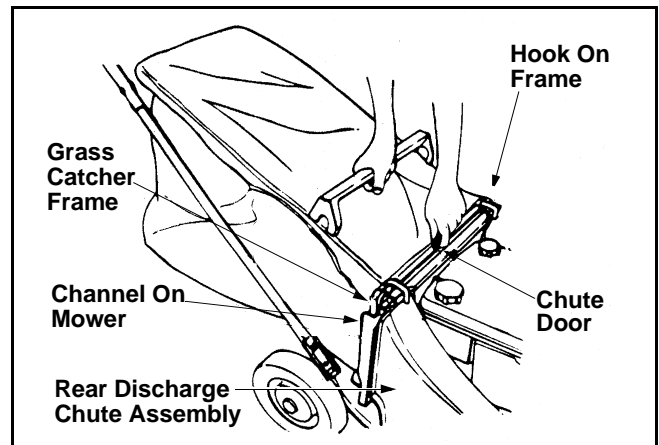

Figure 2
- Swing open the chute door on the catcher panel and hold in this position. See Figure 2.